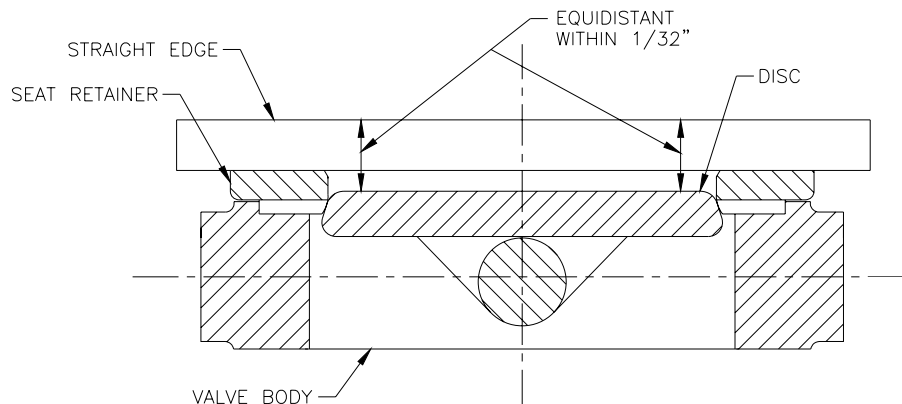

Figure 5-2
1. Measure the distance between disc and seat retainer. The distance side to side must be no greater than 1/32". Figure 5-2.